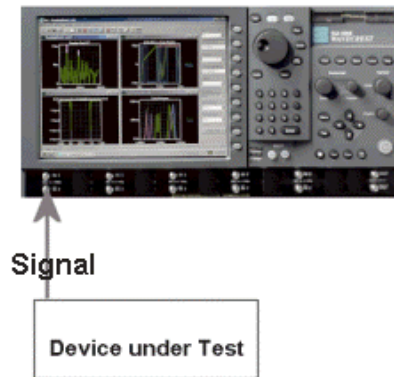

Fig. 2 SIA-3000 with signal source.
The experimental set up is shown in **Fig. 2**. For this example, the signal source is a Marconi 2041 low noise signal generator. The signal has a carrier frequency of $f_0 = 1$ GHz. The carrier is frequency modulated at $f_m = 6$ kHz with a deviation of $\Delta f = 1$ kHz.
2. Connect the signal to a measurement channel (**Fig. 2**). Set the measurement channel in VISI by going to the **Acquire Option** menu and choosing **Channel**.